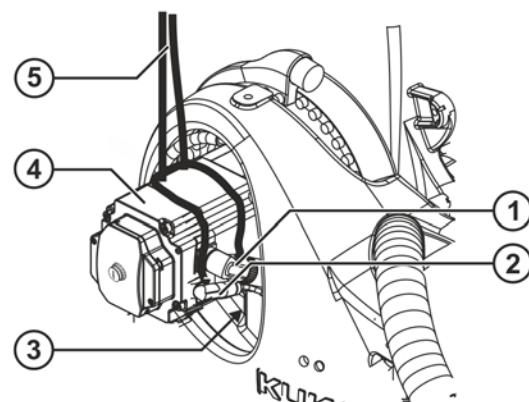

Fig. 11-4: Removing motor A2
3. Release and unplug connectors XM2 and XP2 at the sockets (**>>> Fig. 11-4**).